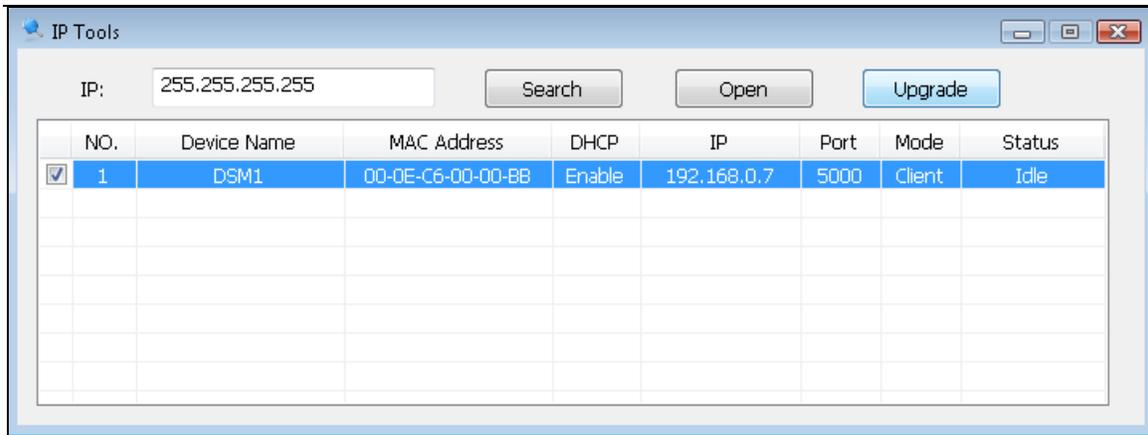

Figure 30
3. Launch the IP Tools application as referenced in Section 3.4.1, and locate the ObserverIP on your network. Reference Figure 30. Select the Upgrade button to begin the firmware upgrade. As shown in this figure, the IP address of the ObserverIP is 192.168.0.7. Make a note of your IP address (your results will vary).
2. Launch the IP Tools application as referenced in Section 3.4.2, and locate the ObserverIP on your network. Reference Figure 30.